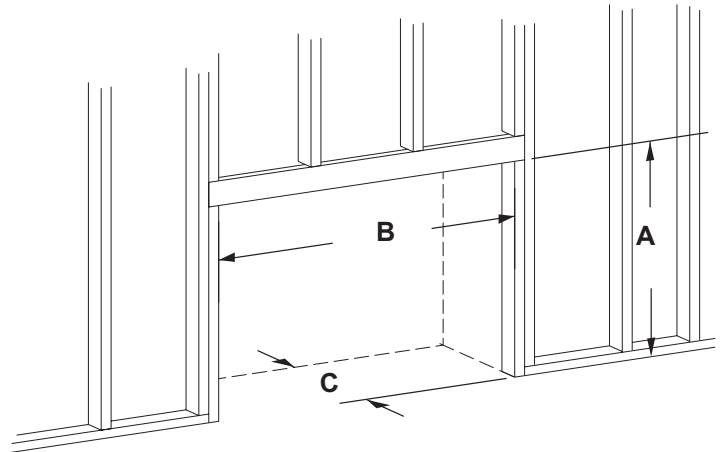

Figure 16 - Rough Opening in a Normal Wall
- Use dimensions shown in Figure 16 for a conventional rough opening.